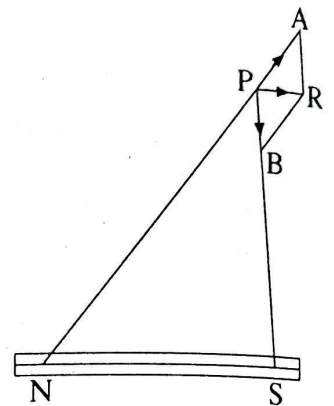

Fig. 14.7
- (iii) A point such as P in fig. 14.7 is taken on one side of the magnet. A compass needle is placed at P. The paper is rotated such that the needle remains parallel to the thread stretched along the magnetic meridian. Dot marks are placed at the ends of the needle with the arrow mark in the direction in which the n-pole of the needle points. The outline is drawn around the compass needle.